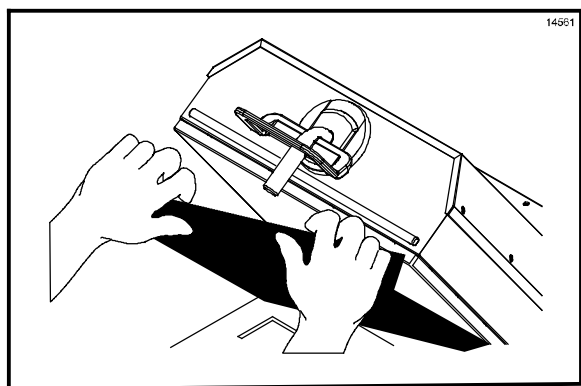

Figure 16
6. Carefully pull the release material sheet down. Unhook the release material rod from the release material hook. (See Figure 16.)